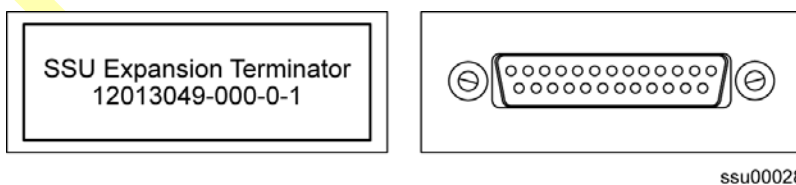

Figure 2-9. SSU Expansion Terminator (J8)
1. Install the BUS Termination Assembly (12013049-000-0-1, shown in Figure 2-9) on connector J8 of the main shelf.